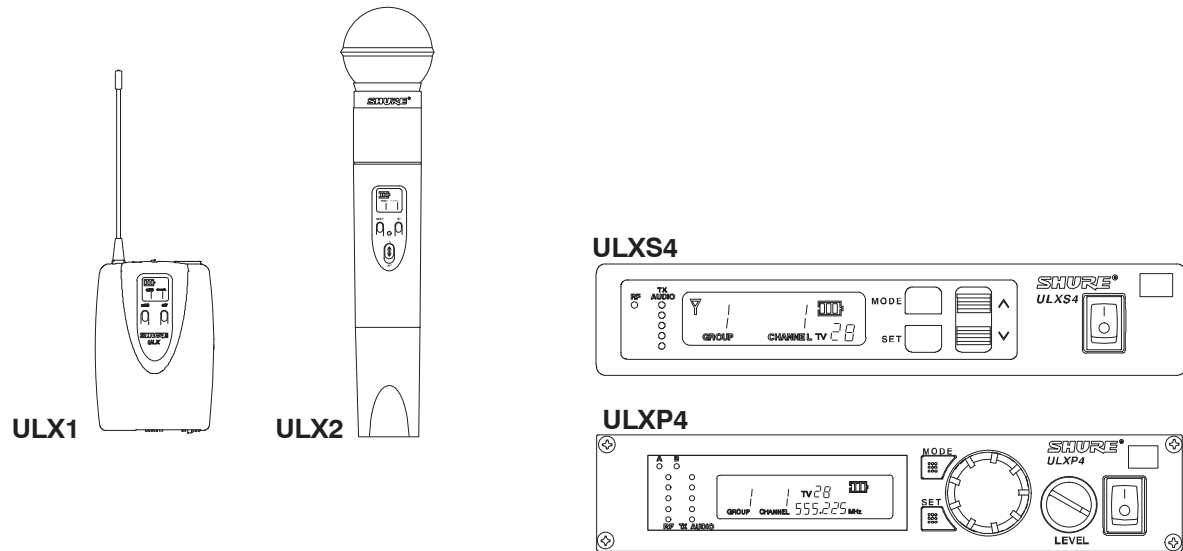

FIGURE 1
- Each Shure ULX® Wireless System includes the following components, as shown in Figure 1: